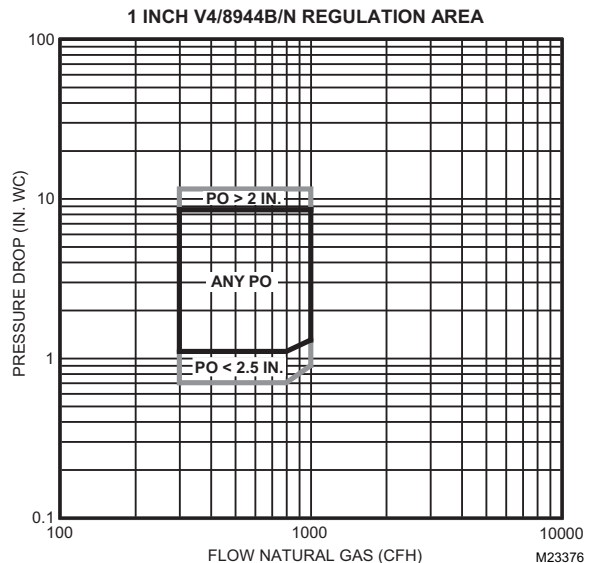

Fig. 2. Capacity vs. pressure drop of Natural Gas curves for 1 in. valve.
5. Use the corrected burner capacity in cfh when determining the gas valve size in Figs. 2–9.
6. Determine the maximum pressure drop across the valve and draw a vertical line at this pressure in Figs. 2–9.
4. Find the valve size from Figs. 2–9.